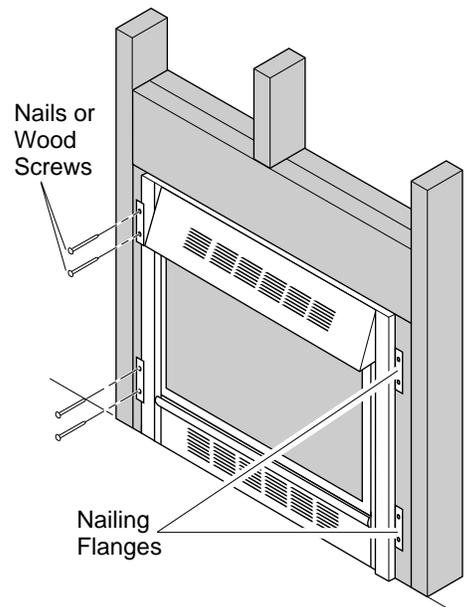

Figure 28 - Attaching Fireplace to Wall Studs
- Attach fireplace to wall studs using nails or wood screws through holes in nailing flange (see Figure 28).